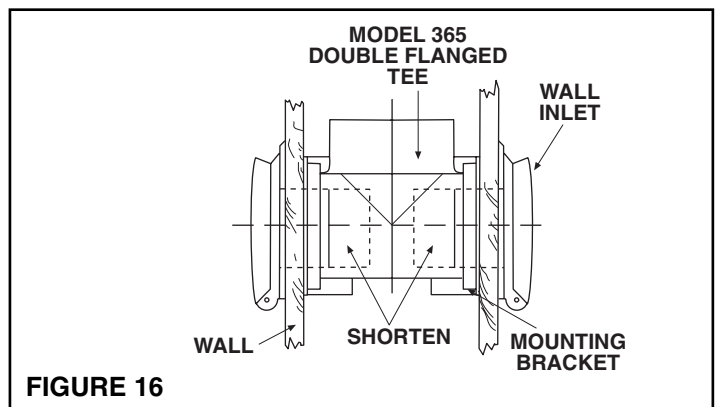

FIGURE 16
**NOTE:** When wall inlets are installed in  $\frac{1}{2}$ " thick walls or less, the tube of the wall inlet may extend into elbow area of the flanged fitting and cause blockage. Shorten the wall inlet tube to prevent this condition. See Figure 16.